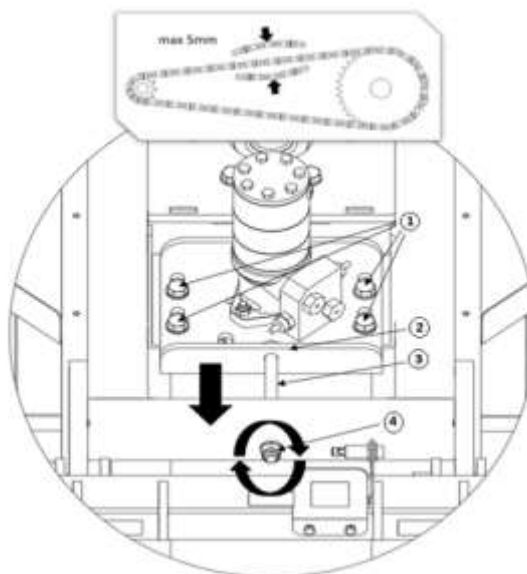

Figure 34 Adjusting the chain tension of the rotary frame
1. Loosen the bolt nuts (1) of the motor plate (2) size 24 wrench – Figure 34.
2. Use the screw (3) and nut (4) to adjust the chain tension.
4. Fix the motor plate (2).